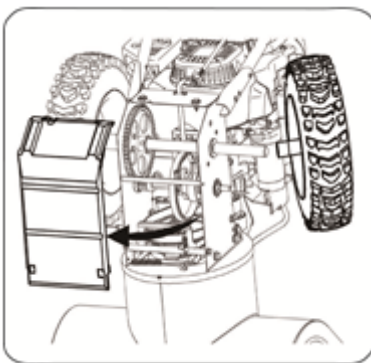

Fig. 31
- b. Remove the right wheel by removing the screw and washer that secures it to the axle. See figure 31